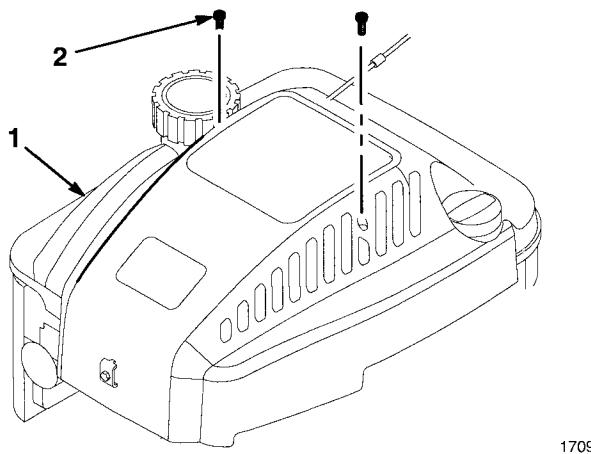

Figure 31
2. Remove (2) screws from engine cover and lift off cover (Fig. 31).